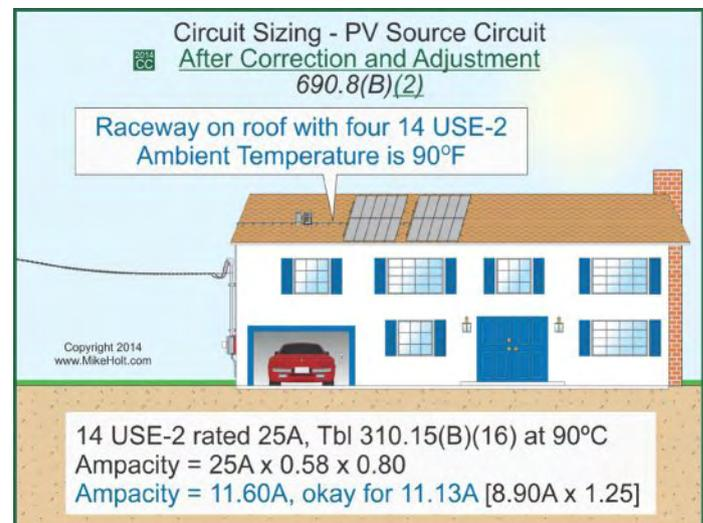

Figure 690-47
**Example:** What's the conductor ampacity after temperature correction and adjustment for four current-carrying size 14 RHH/RHW-2/USE-2 or PV wires rated 90°C in a raceway or cable on the roof, where the ambient temperature is 90°F with 60°F added in accordance with Table 310.15(B)(3)(c), supplying modules having a nameplate  $I_{sc}$  rating of 8.90A for each circuit? Figure 690-47
**Conductor Ampacity = Table 310.15(B)(16) Ampacity at 90°C Column x Temperature Correction x Adjustment**